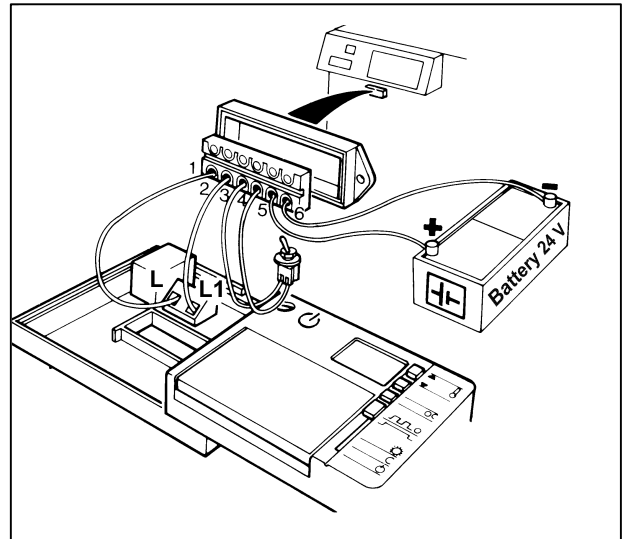

Figure 5
- **Connecting the room thermostat** (see figure 5 and electrical diagram in Appendix C)
Warning: Never change the + pole with the - pole on the battery (see figure 5).
Warning: Never change the + pole with the – pole on the battery (see figure 5).